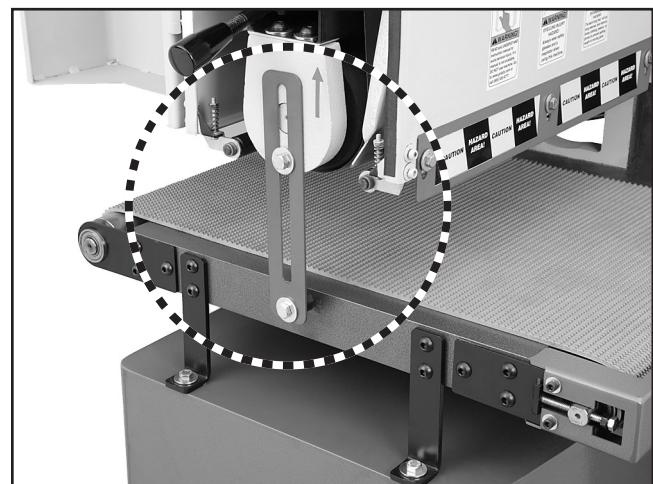

Figure 12. Location of the shipping brace.
- Open the sanding belt access door on the left side of the machine, and remove the red shipping brace securing the sanding drum and the conveyor assembly (see **Figure 12**).